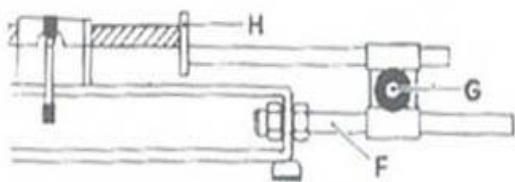

Fig.: 1
- Replace protective casing A, being careful to insert the blade between the straps of the protection S(see fig.1.).